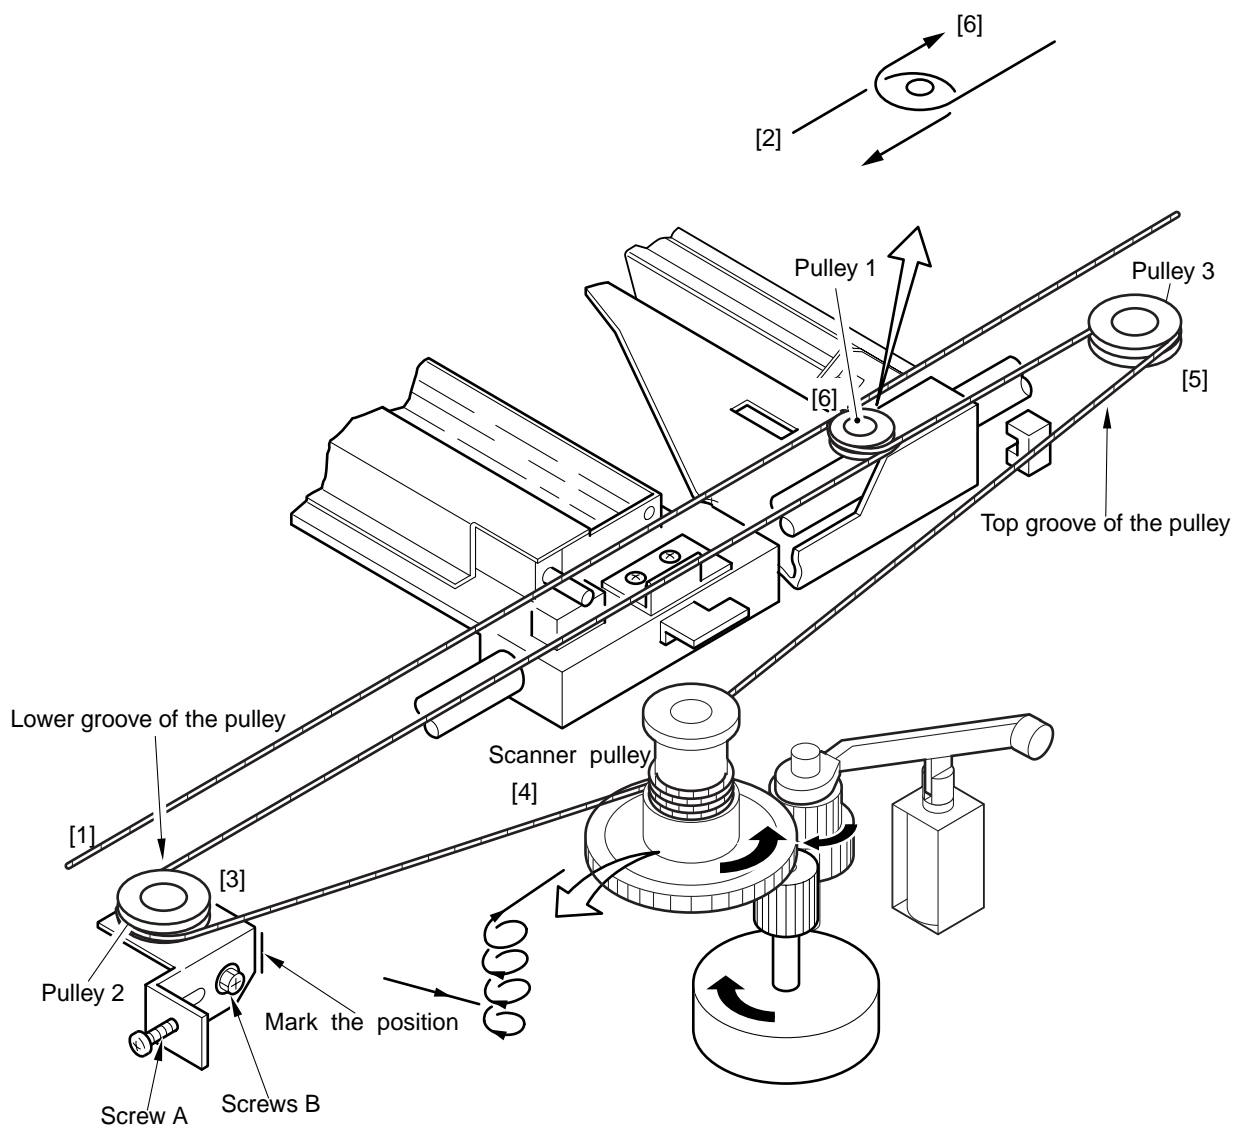

Figure 3-504 Scanner Drive Assembly
- 2) Wind the lens cable around the lens pulley as shown in Figure 3-504; then, fix it using two screws.
- 1) Route the scanner cable as shown in Figure 3-504.